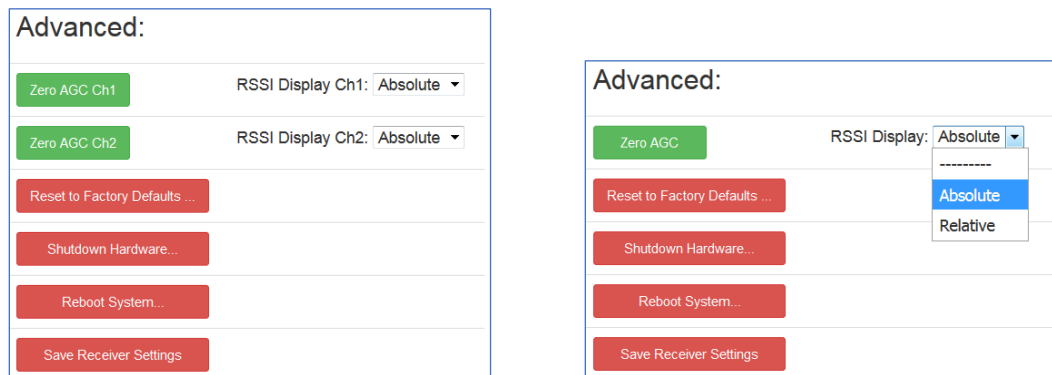

Figure 270: Advanced Buttons, Zero AGC Button, Separate Channels or Combiner Active
Automatic Gain Control (AGC) may be set to zero (0) by clicking on the green Zero AGC button in the Advanced section, shown in Figure 270. One or two buttons are available depending on the number of channels and the combiner mode.
The Signal Strength display has two modes depending on the option selected in the RSSI Display drop down menu, shown in Figure 270.